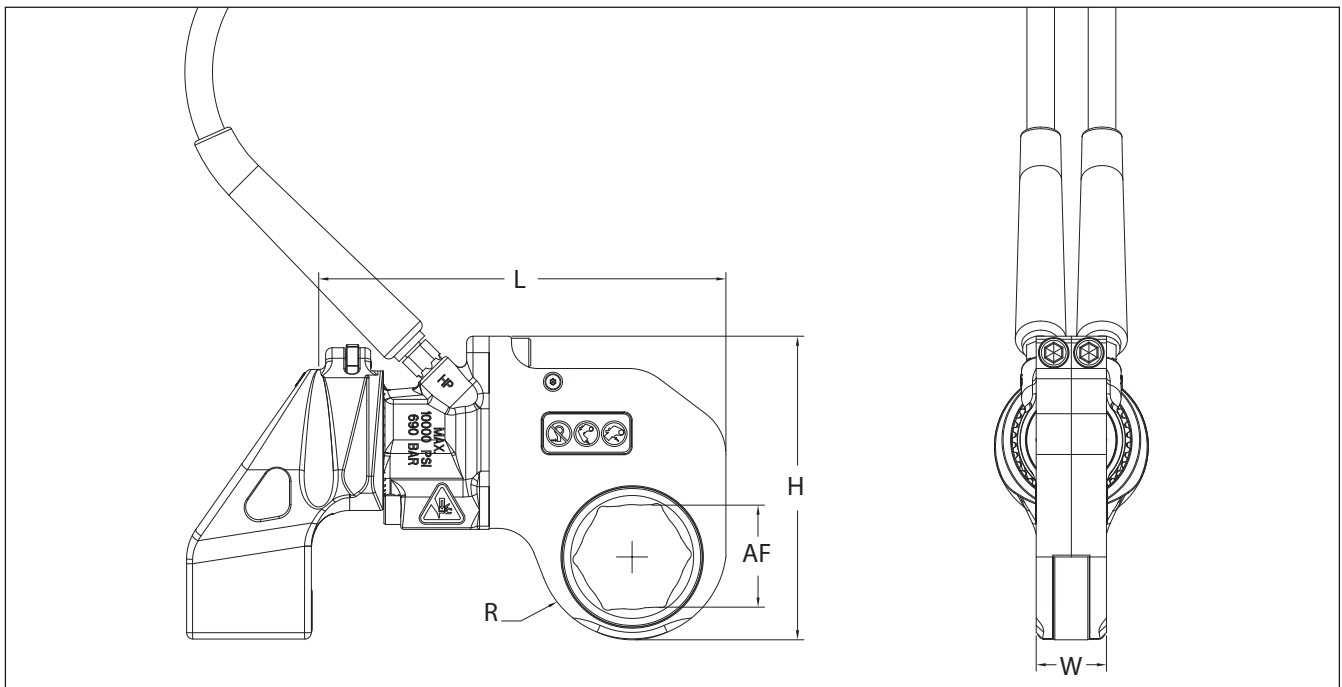

Fig. 7.1-1
7.2.1 Imperial System Table - RSL Hexagon Cassette (see Fig. 7.1-1 for locations of dimensions AF, R, L, H and W)
(see Fig. 7.1-1 for locations of dimensions AF, R, L, H and W)